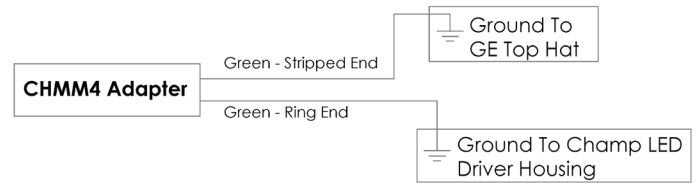

Figure 3
5. Secure one end of the CHMM4 Adapter ground leads to the Champ Series luminaire ground lead using Listed wire connectors or wire nuts. See Figure 3.
7. Ensure that the GE top hat is connected to earth ground. Connect the remaining free end of the CHMM4 Adapter ground lead to the GE top hat as shown in Figure 3. Ensure that the CHMM4 ground lead is securely fastened to the appropriate ground leads or lugs supplied with the Crouse-Hinds luminaire and GE top hat.